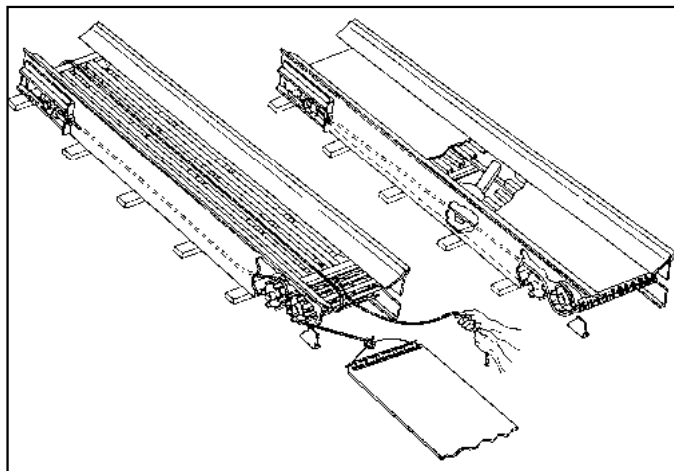

Figure 9— #5 Belt Installation
13. Shut off all power and insert lumber under belt to support its weight as shown in Figure 9.